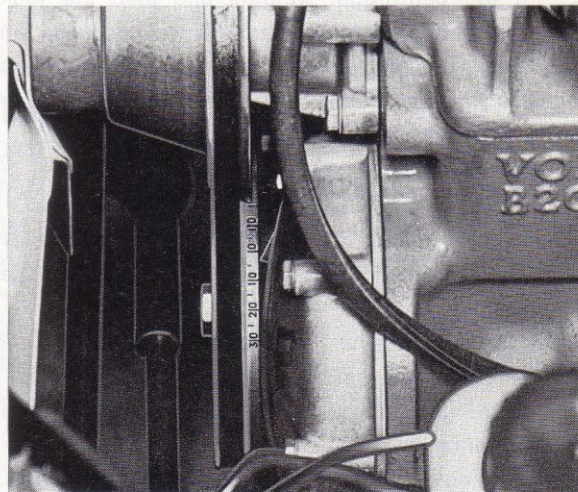

Fig. 111. Ignition timing marks
1. Clean the pulley so that the timing marks are visible, see Fig. 111.